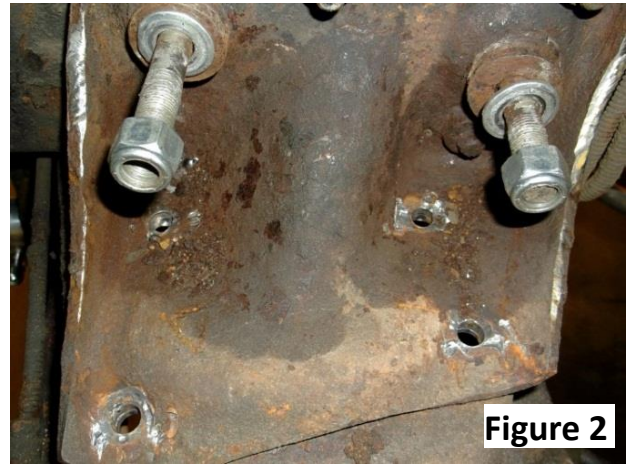

Figure 2
12. Using an air chisel or a grinder, remove the rivets holding the upper control arm mount to the top of the cross member. See **Figure 2**.